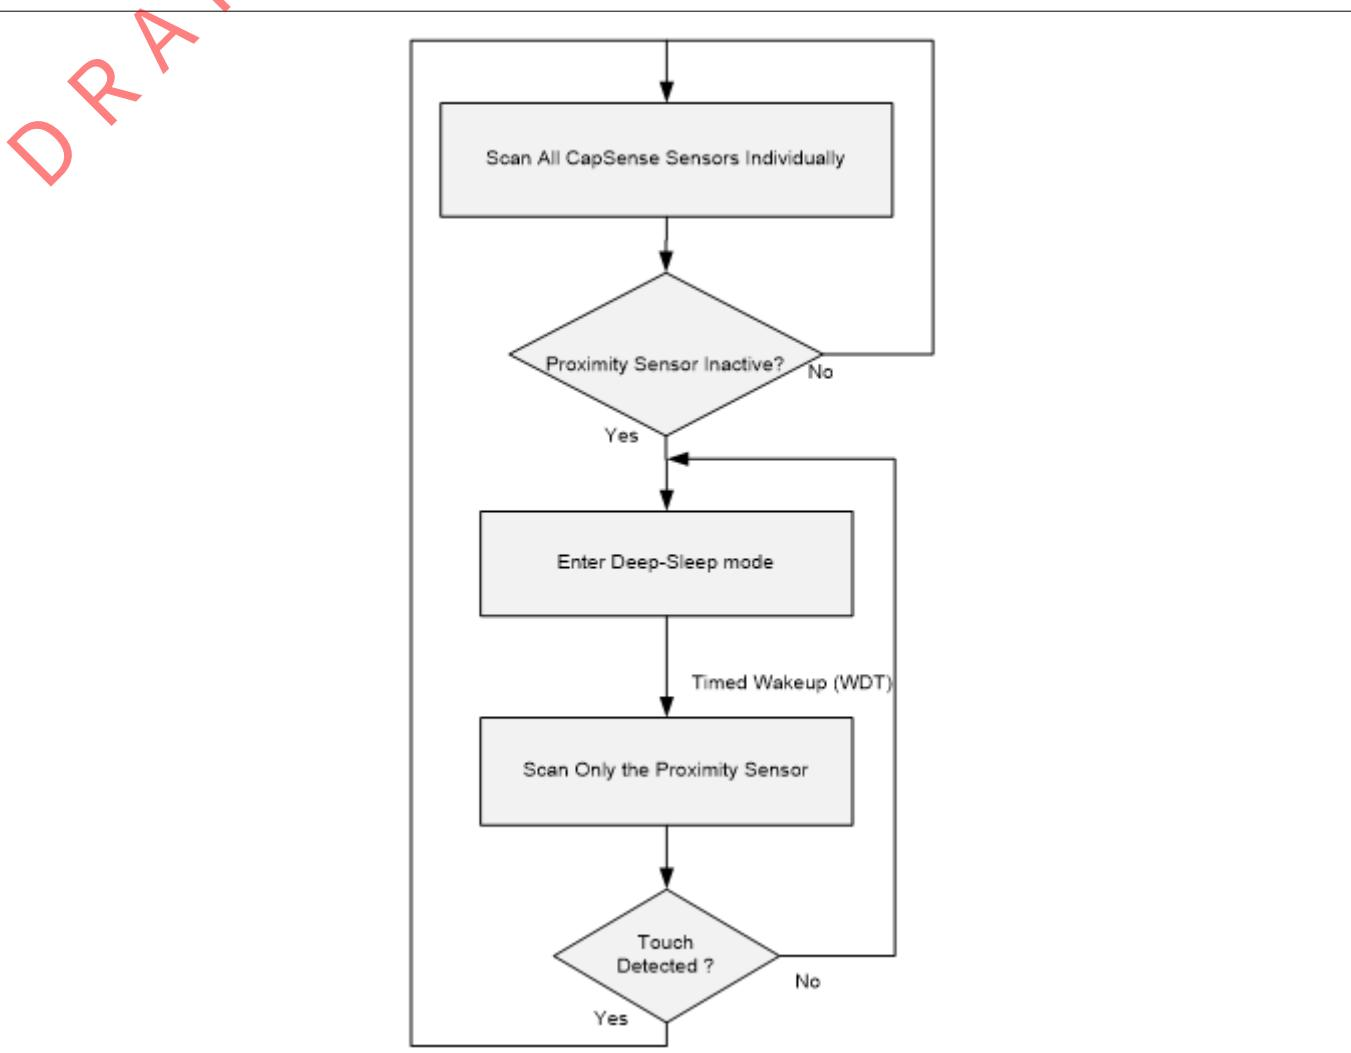

Figure 303 Low-power CAPSENSE™ Design
3. As the number of sensors in the design increases, the device has to spend more time in the Active mode to scan all sensors. This, in turn, increases the average power consumption. For saving power in a design with multiple sensors, you should include a separate proximity loop that surrounds all the sensor. When the device wakes up from the Deep-Sleep mode, only scan this proximity sensor. If the proximity sensor is active, the device must stay in the Active mode and scan other sensors. If the proximity sensor is inactive, the device can return to the Deep-Sleep mode. Figure 303 illustrates this process
1. The CAPSENSE™ component can reduce power consumption by reducing the execution time of scanning by ganging sensors together and managing scanning at the application level. In this case, all the sensors in the design are “ganged” that is, simultaneously connected to the AMUX bus to form a virtual sensor. See the code example PSoC™ 4 low power ganged sensor and AN92239 - Proximity sensing with CAPSENSE™ for details on ganged sensor implementation. A ganged sensor has different tuning parameters because its properties are different compared to considering the sensors individually. Therefore, it should be considered as a single CSD button and tuned separately; see Manual tuning. The ganged sensor is periodically scanned by using a watchdog timer (WDT); if the ganged sensor reports a touch event, enable the scanning of the actual widgets that need to be scanned. This is helpful in CAPSENSE™ designs that requires Wake on Touch modes. The procedure is similar to what is explained in Figure 303. You can achieve very low system current while maintaining a good touch response, by properly tuning CAPSENSE™ and the wakeup interval. This technique could also be used with the CSX touchpad widget.